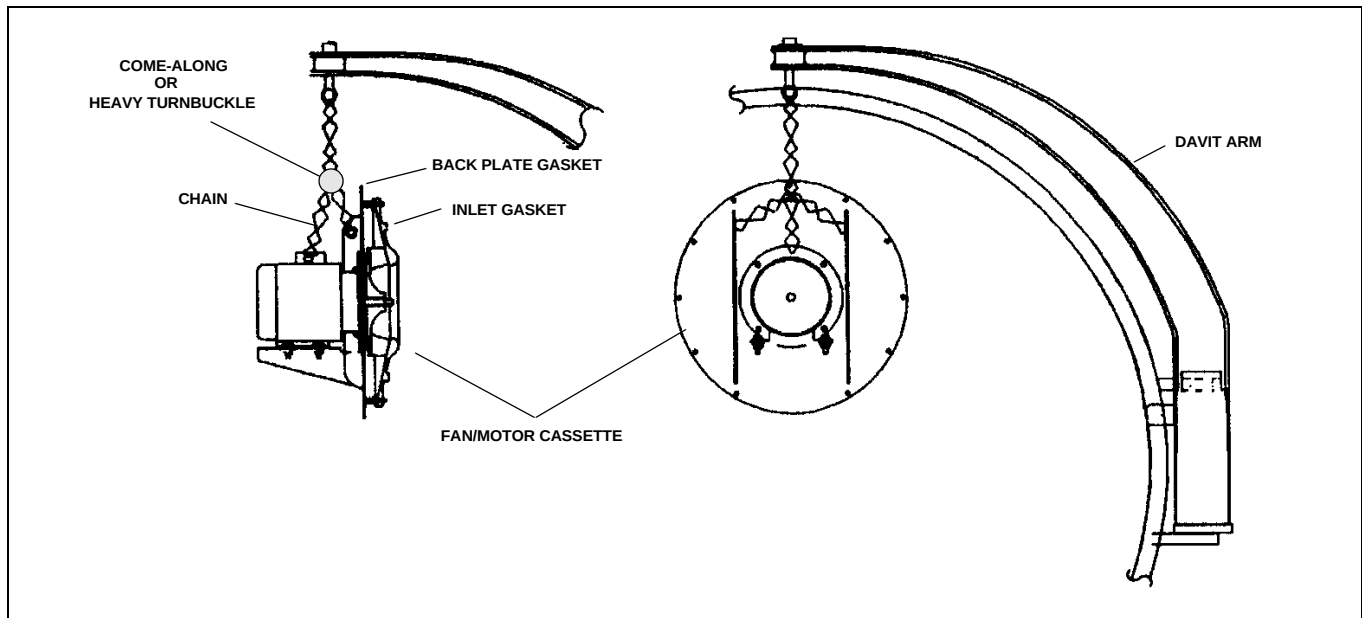

Figure 1-13 Fan / Motor Cassette
Fan/Motor Cassette (**Figure 1-13**). The fan and motor assemblies are designed as a cassette so that they can be removed from the front of the boiler, without opening the front door. The front door davit arm can be used to remove the assembly.
12. Combustion Air Inlet (**Figure 1-13**). The combustion air inlets are located at the top of the front door. Air enters from the rear of the air inlet shrouds, which reduces the sound level and captures heat from the boiler and stack flue outlet.
13. Front Door Installation (**Figure 1-13**). If NO_x emissions are below 60 ppm, the front door is insulated inside to control temperature build up. The insulation is held in place with wire mesh.